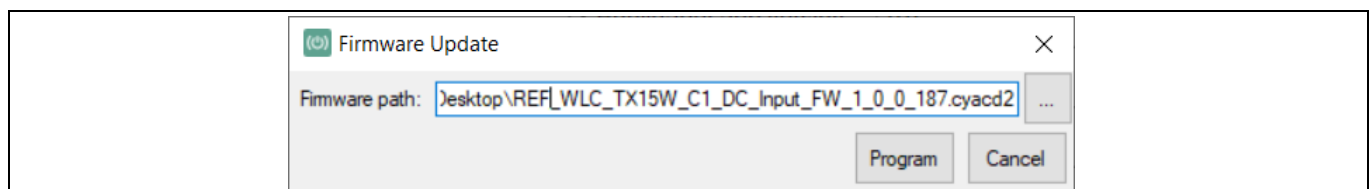

Figure 20 Selecting the firmware supporting DC input-based operation
- d) Go to **Tools > Firmware Update** or select the **Firmware Update** option from the **Home** panel. Specify the path for the firmware as shown in **Figure 20** and click **Program**.